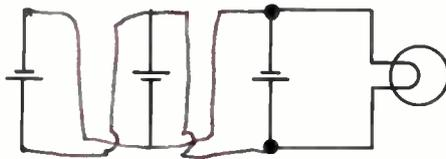

Fig. 8
4. Draw the wires necessary to connect all three cells in parallel to the lamp in Fig. 8.